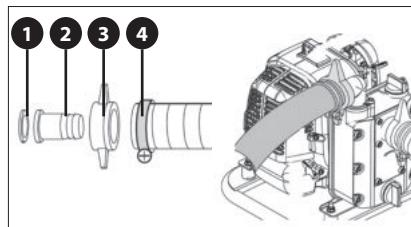

Fig. 3, method for attaching hose connector to the pump and connecting a hose
► **Install a hose connector on to the thread of the suction and delivery fitting in sequence 1-4 shown in fig. 3, i.e.: gasket - hose connector over which a cap nut is placed, which will then hold the hose connector on the male/delivery fitting. Then, on to the installed hose connector, slide on the hose with a hose clamp, and firmly tighten it so that the hose resists the water pressure at the outlet and so that air is not drawn in at the inlet due to leaks around the hose.**